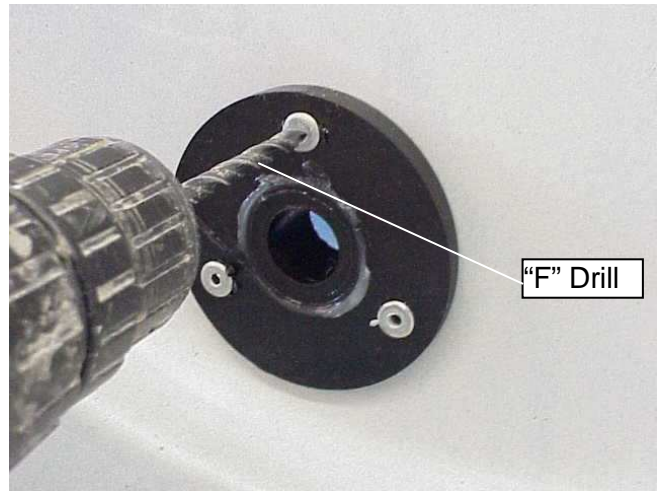

Figure 2.
1. **If riveted or bolted bushings are installed in the boat**—remove all tie bolts, or if riveted, use an “F” size drill bit (0.257”) installed in a drill motor, and drill out 3 rivets on both the port and starboard bushing assemblies. **See Figure 2.** Remove the original bushing assemblies from the boat. **If the boat is equipped with the latest bushing possessing the large (1.75” Hex) nut within the paddle wheel well**—remove the large nut and disassemble the inner and outer bushing halves from the boat.